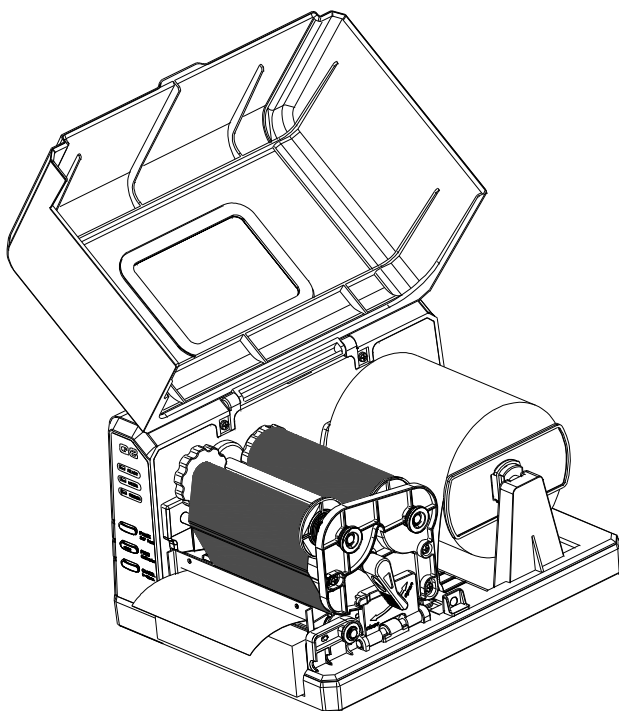

Figure 6-5
4. Turn the Handle to the “open” position, and flip down the Printhead Module Plate. Lead the labels through the Cutter, then close the Printhead Module Plate, and turn the Handle to the “close” position. Media roll is loaded (see Figure 6-5).